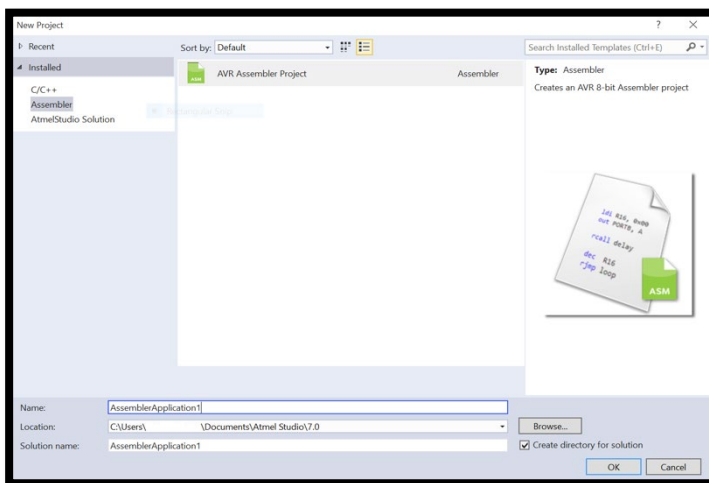

Figure 1: Choosing the project type
2. Under *Installed*, select **Assembler**, and then **AVR Assembler Project** (see *Figure 1*).